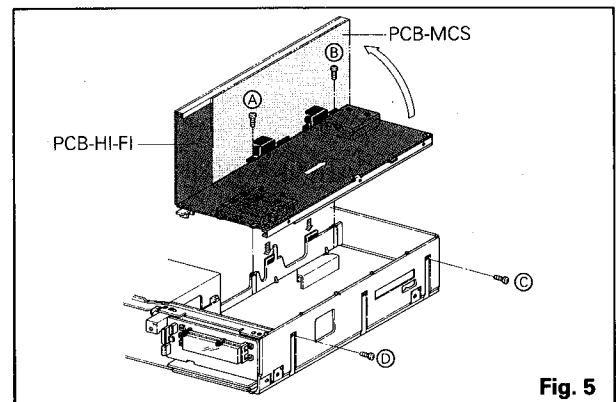

Fig. 5
- A. Remove the four screws (A) (B) (C) and (D) retaining the PCB-HI-FI as shown in Fig. 5.
- A. Mount the HI-FI circuit board vertically, as shown in Fig. 5.